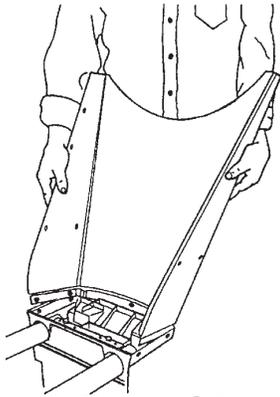

Figure C-2
8. Place the "lip" of a leg (30) inside the Mark 7 base, as shown in Figure C-2.